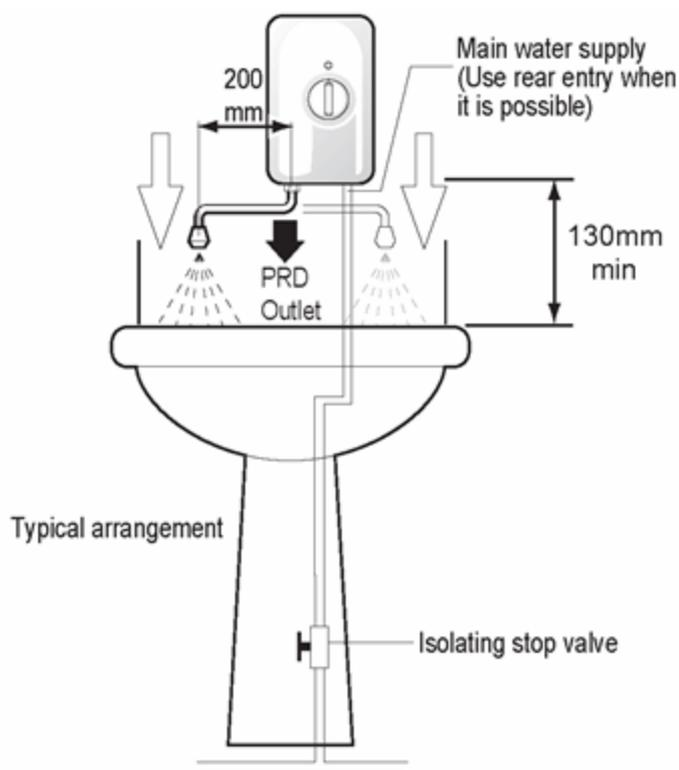

Figure 4 Handwash position over basin (or sink)
- 4.6 Position the unit above the basin so that the spray will be contained within the basin and at a convenient height for hand washing see figure 4.
5.11 An isolating stop valve **MUST** be incorporated to the main water supply to comply with Water Regulations - see figure. 4.